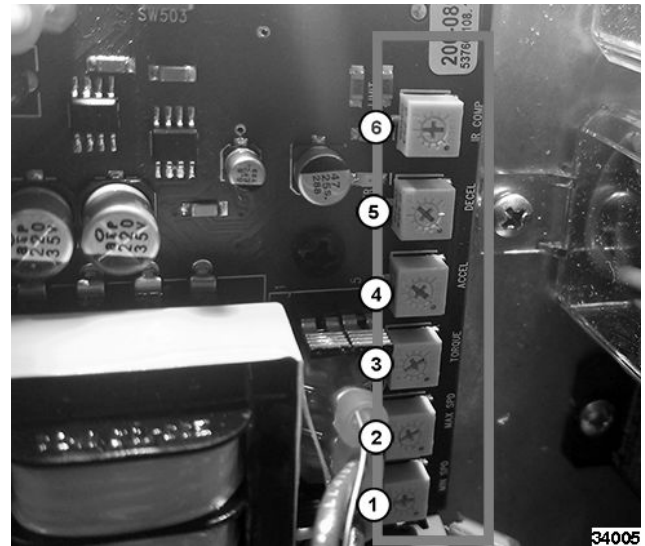

Fig. 76
2. Dial in all settings (Fig. 76).